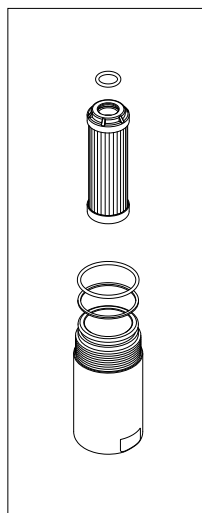

fig. 11
- (Fig. 11) Fit 1°: the anti-extrusion ring and #2: the O-ring in the bowl groove, insert the O-ring in the filter element cap